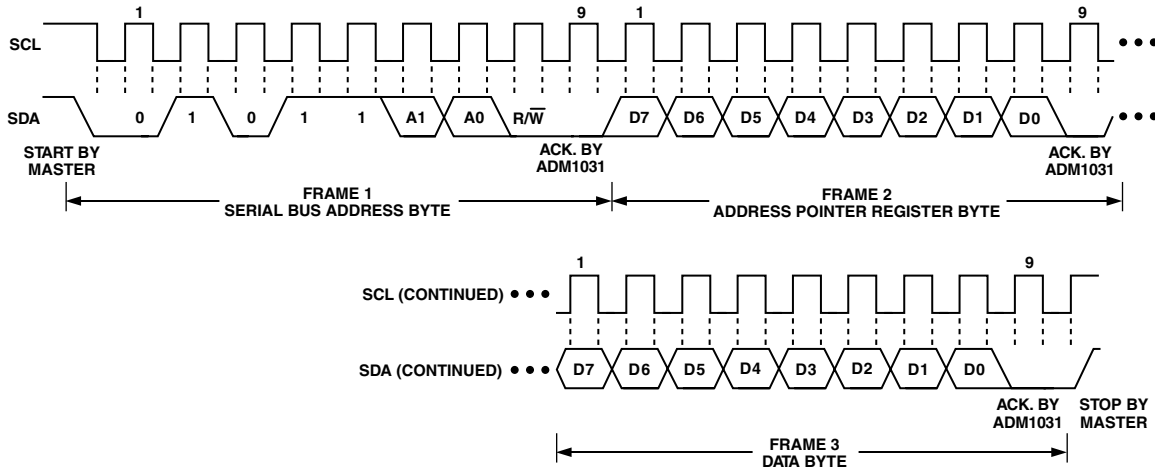

Figure 2a. Writing a Register Address to the Address Pointer Register, then Writing Data to the Selected Register
This is illustrated in Figure 2a. The device address is sent over the bus followed by R/W set to 0. This is followed by two data bytes. The first data byte is the address of the internal data register to be written to, which is stored in the Address Pointer Register. The second data byte is the data to be written to the internal data register.
2. In Figures 2a to 2c, the serial bus address is shown as the default value 01011 (A1)(A0), where A1 and A0 are set by the three-state ADD pin.